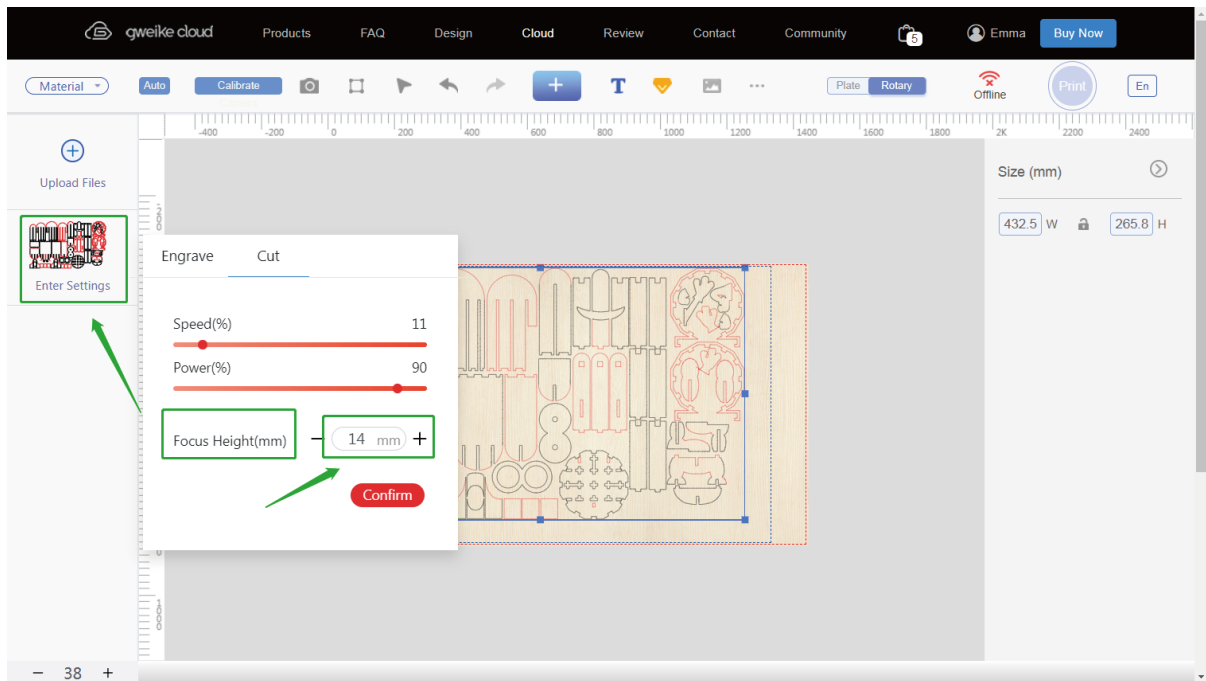

Figure 1
2) If the cutting material is of other thickness (within 0-17mm), place the material on the honeycomb panel, enter the website operation page, and click the blank area above the Select SVG on the left side of the page (as shown in the green box in Figure 1), in Focus Height Enter the parameters and click Confirm to complete (refer to Table 1 for focal length parameters). For example, when the material thickness is 2mm, the Focus Height is set to  $17\text{mm} - 2\text{mm} = 15\text{mm}$ . Enter 15mm in Focus Height. Among them, 17mm is a fixed value, and Focus Height value =  $17\text{mm} - \text{material thickness}$ .